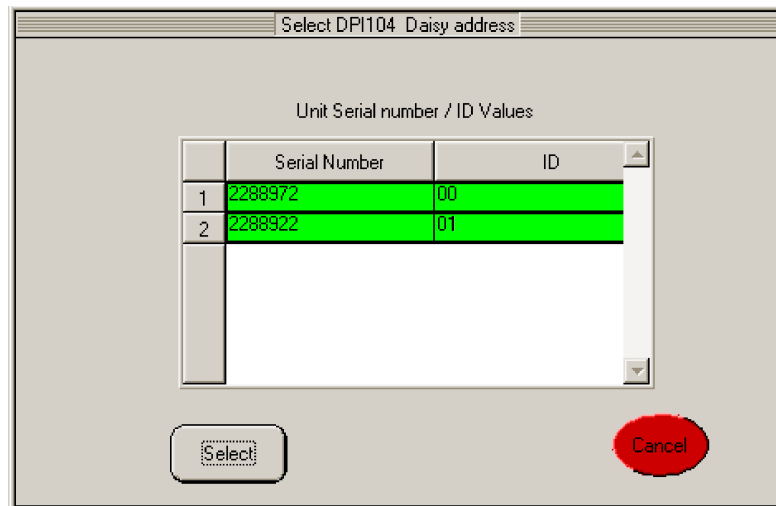

Figure 4-4: Example display - Select DPI 104 Daisy address
*** Setup > *** Setup > Daisy Chain > Select DPI in Daisy Chain > See Figure 4-4.